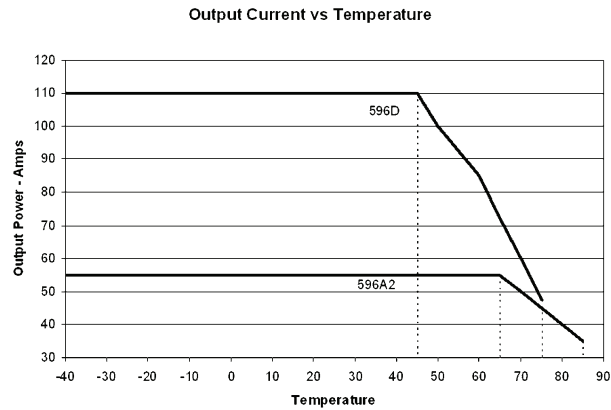

Figure 9-1: Output Current vs. Temperature
1. See Figure 9-1: Output Current vs. Temperature.